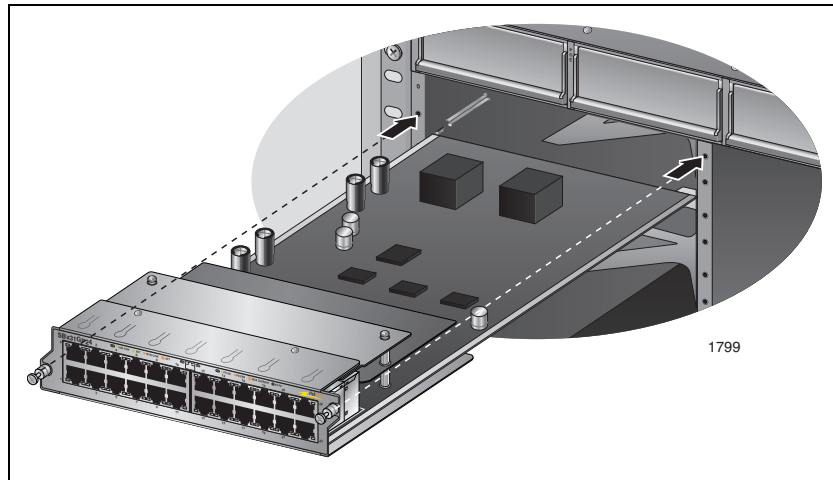
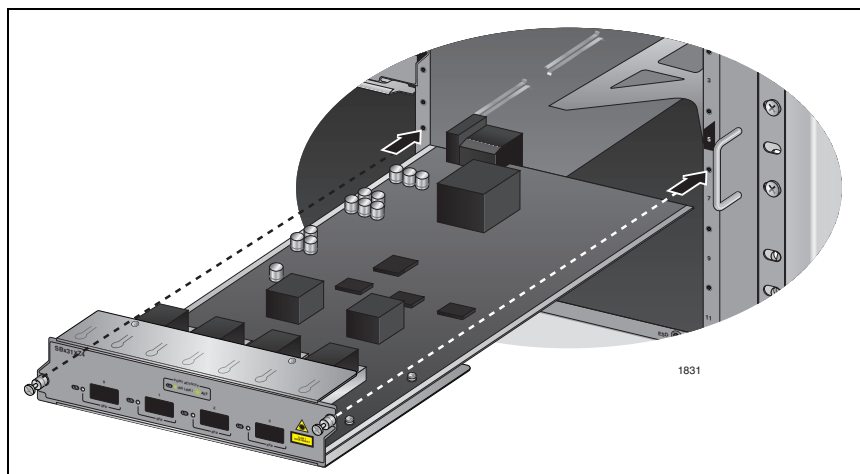

Figure 46. Aligning the AT-SBx31GP24 PoE Line Card in the Chassis Slot
Figure 49. Aligning the AT-SBx31XZ4 XFP Line Card in the Chassis Slot
3. Align the line card with the internal chassis card guides in the selected slot of the AT-SBx3112 Chassis. Figure 46 shows the line card aligned with slot 0.
3. Align the AT-SBx31XZ4 with the internal chassis card guides in the selected slot of the AT-SBx3112 Chassis. Figure 46 on page 73 shows the line card being aligned in slot 4. Figure 49 shows the line card being aligned with slot 7.